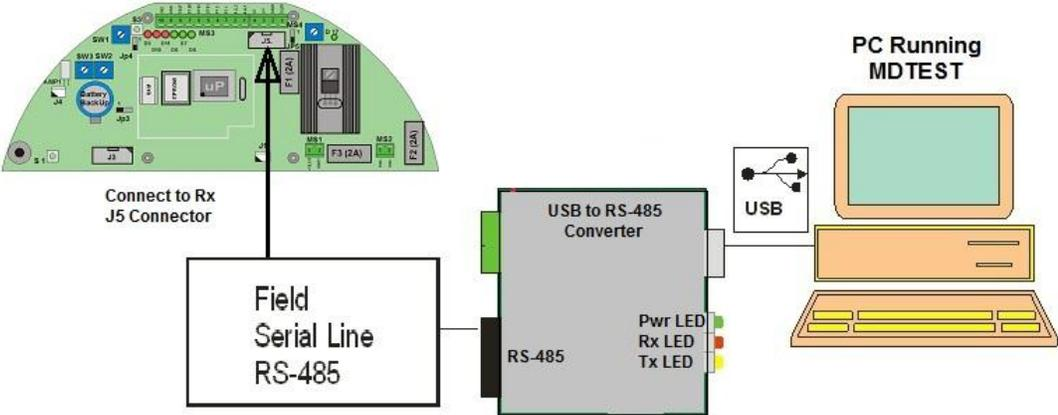

Figure 11: RS-485 to USB connections to PC
First, connect the RS-485 to USB converter to the PC using the USB cable. The green power (PW) LED on the converter should be illuminated. Next, you will need to locate the Microwave Defender Rx device and remove the green plastic radome cover to access the device’s circuit board. Connect the RS-485 field serial ribbon cable from the USB converter’s black 10 pin connector to the Microwave Defender Rx connector number J5 (See Figure 11).